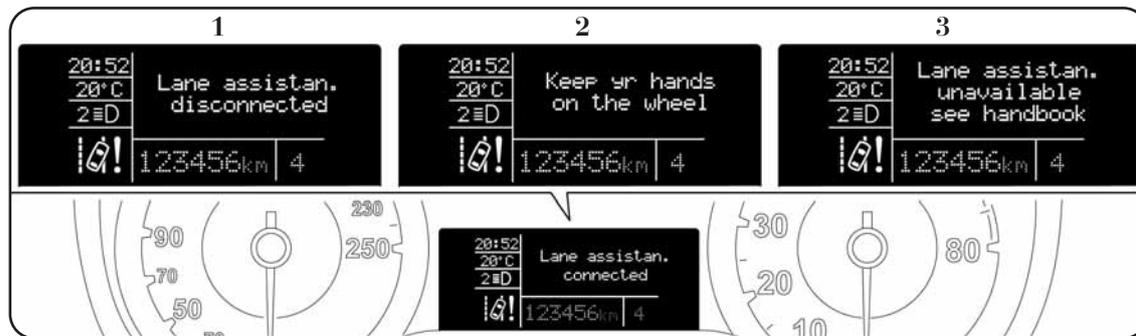

fig. 71
Confirmation of system deactivation is signalled by the LED on the button going out and a message 1-fig. 71 appearing on the display.
The system can be deactivated automatically (if the system is required it will therefore need to be reactivated). The driver is advised that the system has been turned off automatically by three consecutive acoustic signals and the message 1 – fig. 71 in the instrument panel display after the following situations:
- the driver does not keep his hands on the steering wheel (indication 2-fig. 71 is shown on the instrument panel and a buzzer sounds until the driver places his hands back on the wheel. This is considered a dangerous condition and the system is automatically deactivated);
In the event of a malfunction, the system reports the fault via a message 3-fig. 71 appearing on the display and a buzzer sounding.